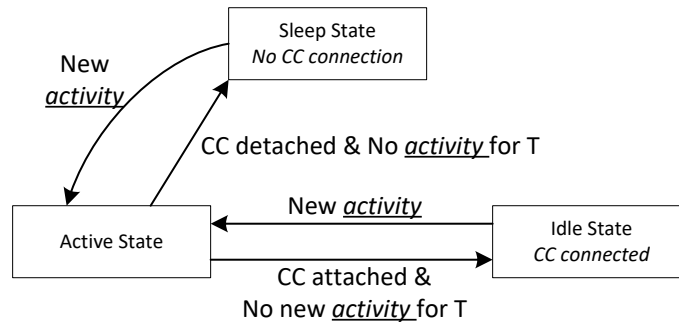

图 9-32. Flow Diagram for Power States
The TPS25750 can operate in one of three different power states: Active, Idle, or Sleep. The Modern Standby mode is a special case of the Idle mode. The functionality available in each state is summarized in 表 9-6. The device will automatically transition between the three power states based on the circuits that are active and required. See 图 9-32. In the Sleep state, the TPS25750 will detect a Type-C connection. Transitioning between the Active mode to Idle mode requires a period of time (T) without any of the following activity: